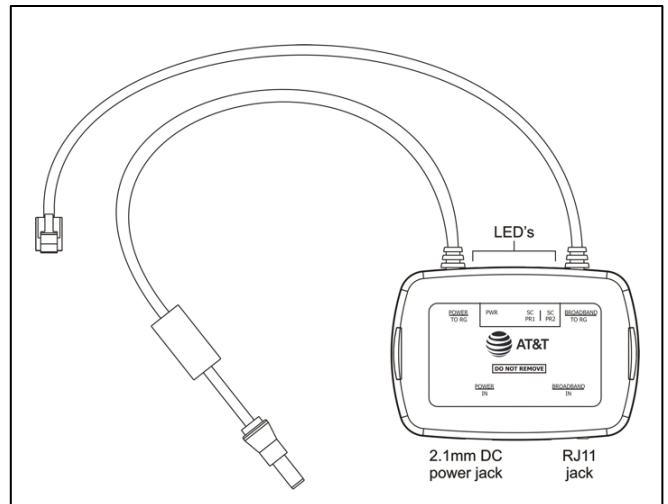

Figure 1. CPS1436-I3
The CPS1436-I3 (Figure 1) delivers direct current (DC) over one or two DSL copper loops to prevent splice oxidation that degrades service performance. The device is installed at the customer premise, between a residential gateway and the interface to the outside plant. CPS1436K-I3 is a kit combining the CPS1436-I3 and the PCA-3063 Power Adapter. Issue 3 of this product adds an identification signature that is detectable by remote test systems only after proper installation of both the unit and jumper(s) at the VRAD/DSLAM location.